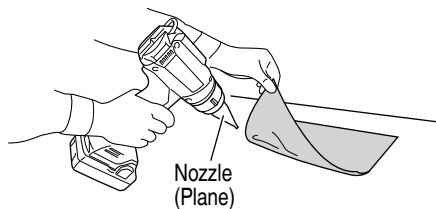

Fig. 14
2. Softening adhesive (Fig. 14)